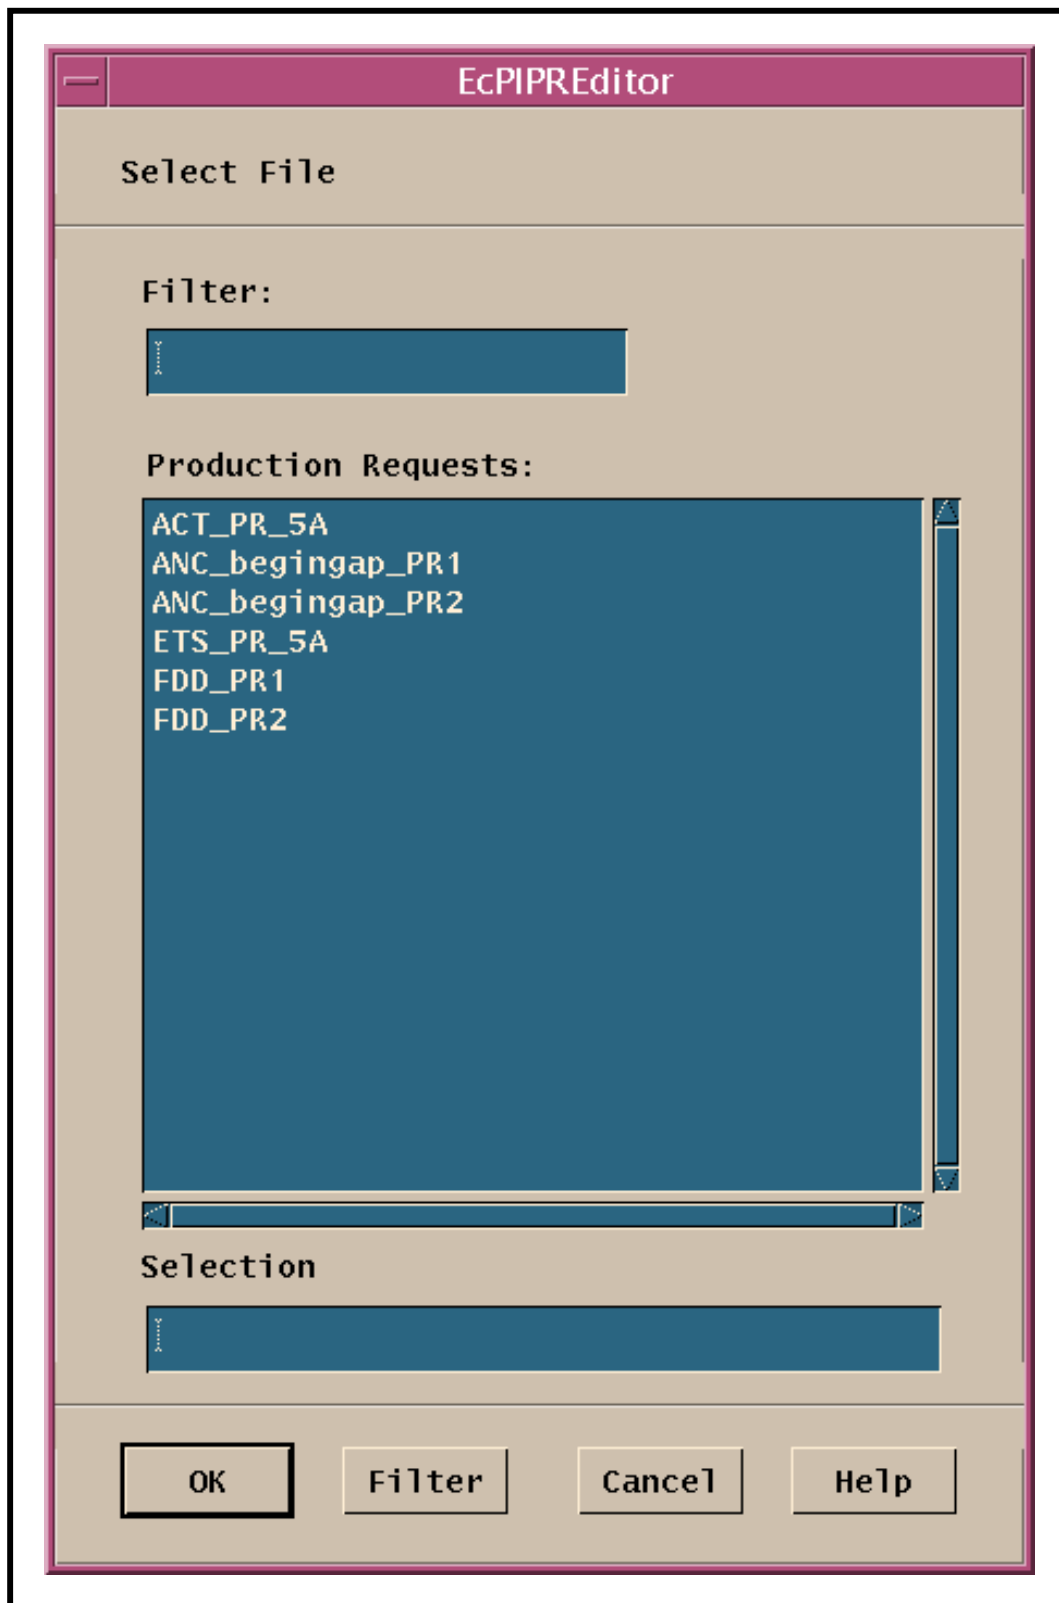

Figure 24. Production Request Editor File Selection Window
- The **File Selection** window (Figure 24) is displayed.